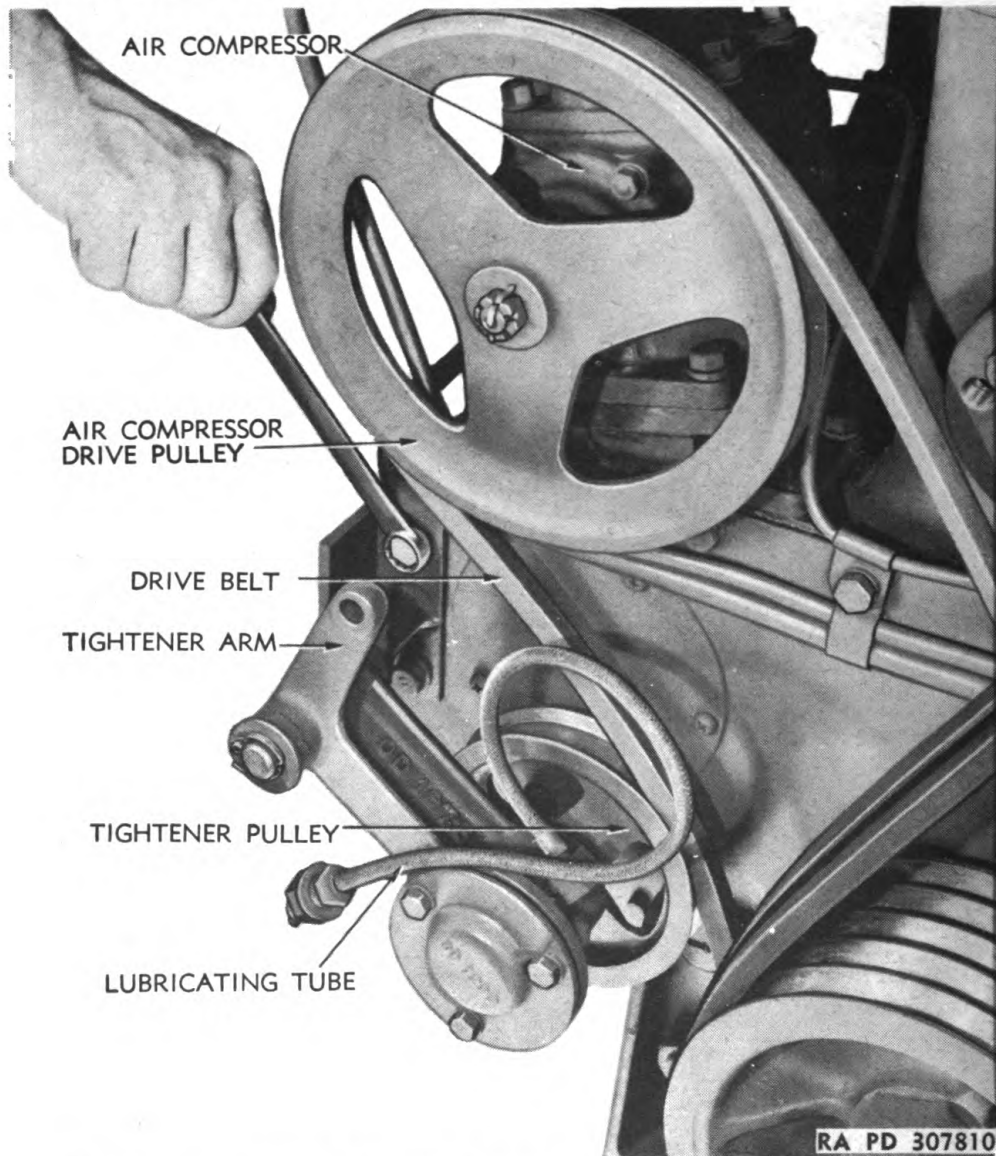

Figure 6 — Removing Air Compressor Drive Belt Tightener
d. Remove Compressor Drive Belt Tightener Assembly. Remove two cap screws and lock washers attaching tightener assembly to timing gear housing (fig. 6), and remove tightener assembly from engine.